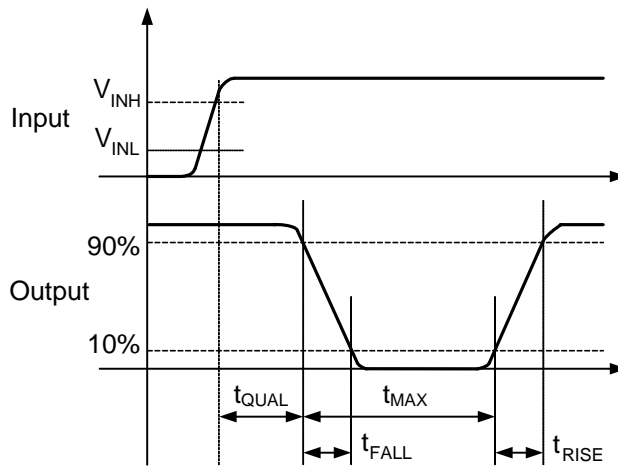

Figure 4. Timing (with EN HIGH)
- 11. See *Timing Diagram of Figure 4*.